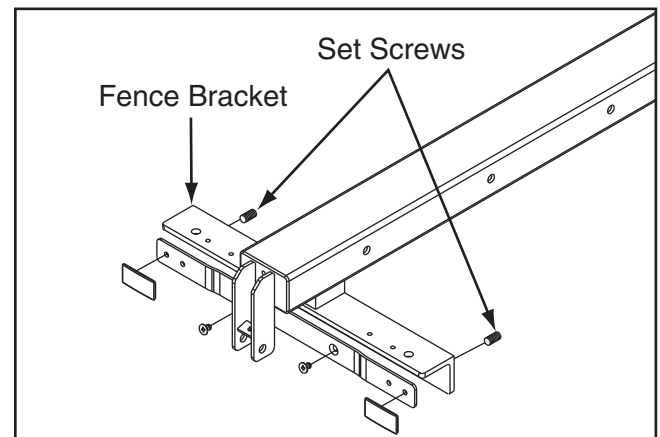

Figure 132. Location of set screws used to adjust fence parallelism and clamping pressure.
2. Remove the fence and equally adjust the set screws shown in **Figure 132** as necessary, then re-install the fence and check the clamping pressure. Readjust as necessary until the fence will not move as pressure is applied against it.